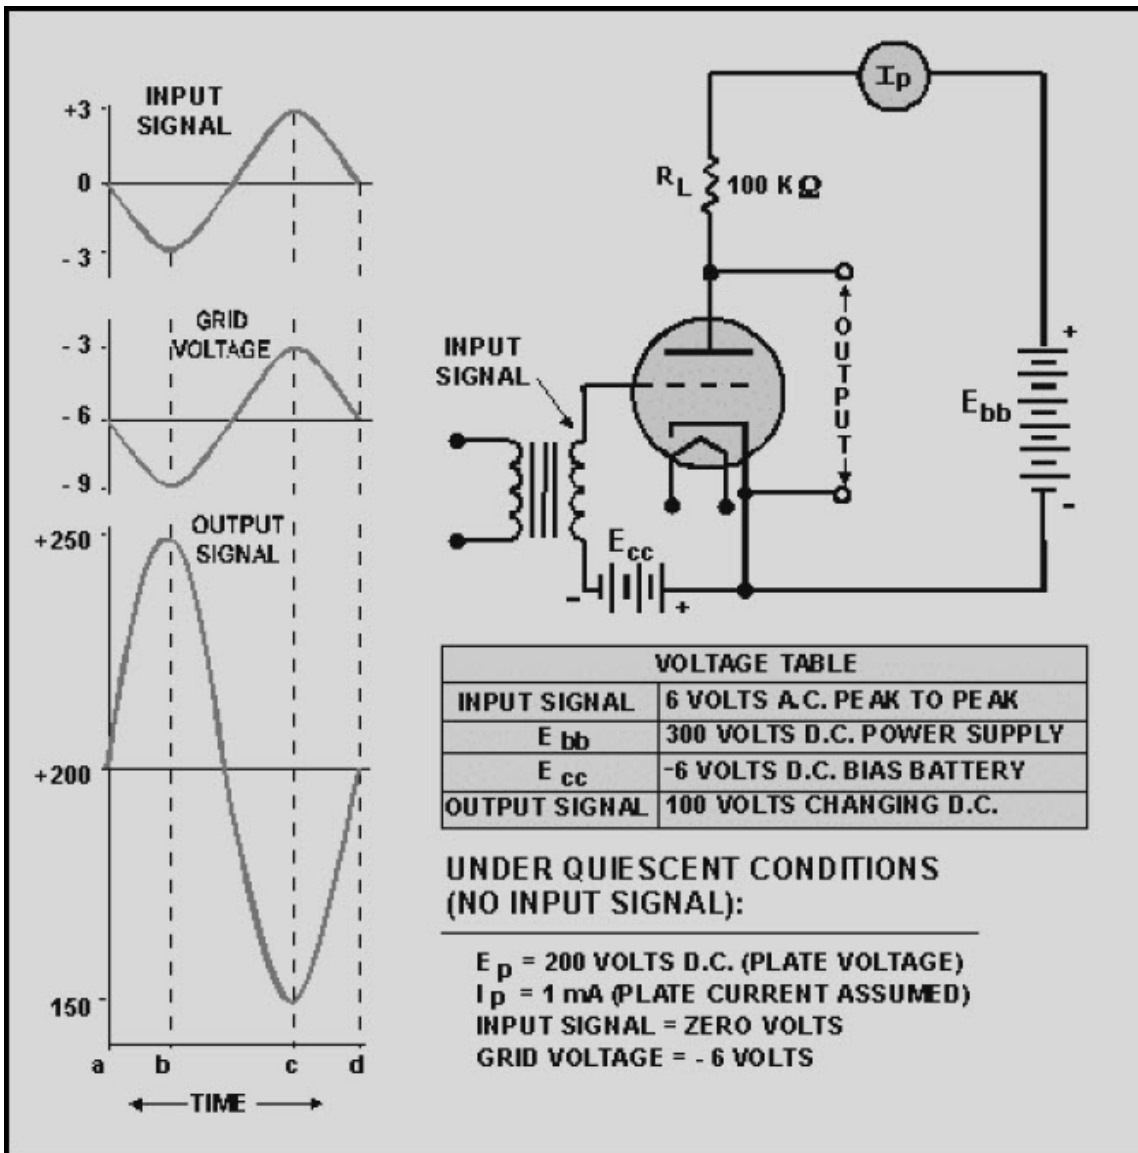

Figure 1-19 Triode operation
The circuit in figure 1-19 brings together all of the essential components of a triode amplifier. Before analyzing the circuit, however, we need to define the term **QUIESCENT**.
Simply, quiescent describes circuit conditions when the tube is not amplifying. The tube has no output signal and is in a kind of standby, waiting condition. Now let's go on to figure 1-19. With no input signal, under quiescent conditions, assume that 1 milliampere of current flows through the tube, cathode to plate. This current (I_p) will flow through R_L (load resistor) to the positive terminal of the battery. The current flowing through R_L causes a voltage drop (IR) across R_L equal to:
These values are shown on the waveforms as time a in figure 1-19.
Before going on to the next section, there is one more thing of which you should be aware. Look again at the waveforms of figure 1-19. Notice that the output voltage of the amplifier is 180° out of phase with the input voltage. You will find that this polarity inversion is a characteristic of any amplifier in which the output is taken between the cathode and the plate. This is normal and should not confuse you when you troubleshoot or work with this type of circuit.
Q18. A triode amplifier similar to the one shown in figure 1-19 has an E_{bb} -350 volts dc. The plate-load resistor is 50 k Ω . Under quiescent conditions, 1.5 milliamperes of current conducts through the tube. What will be the plate voltage (E_p) under quiescent conditions?